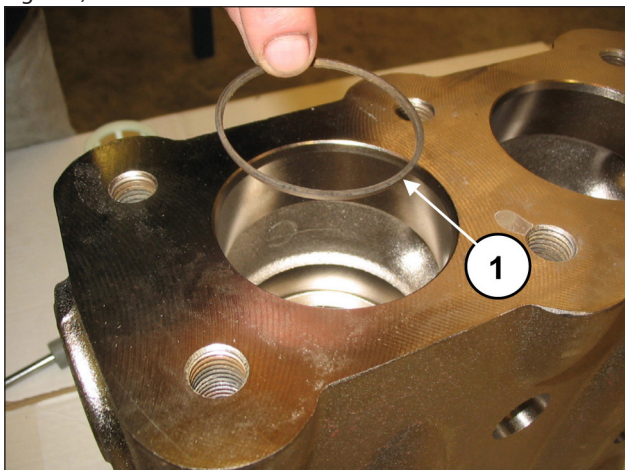

Fig. 117
Insert the back-up ring, exploded view pos. 5 (pos. ①, Fig. 117).